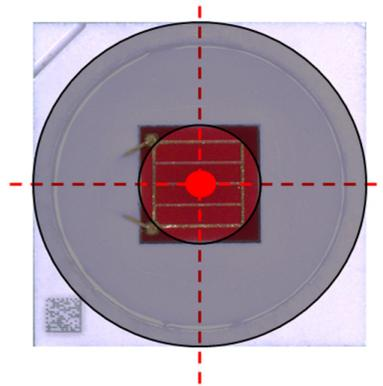

Figure 16. Pick-up position and nozzle scheme used for Versat 3030 LED
1. The pick-up area is defined in Figure 16.